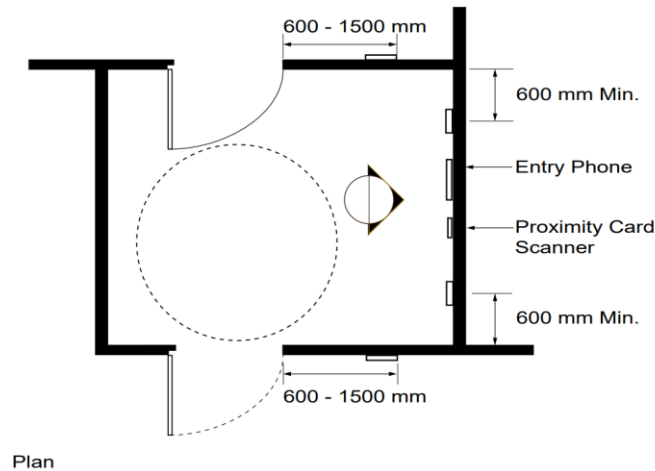

Figure 134: Card Access and Building Security Systems - Plan View
- Mount controls a minimum of 600 mm laterally from the arc of any door swing (see Figure 134)